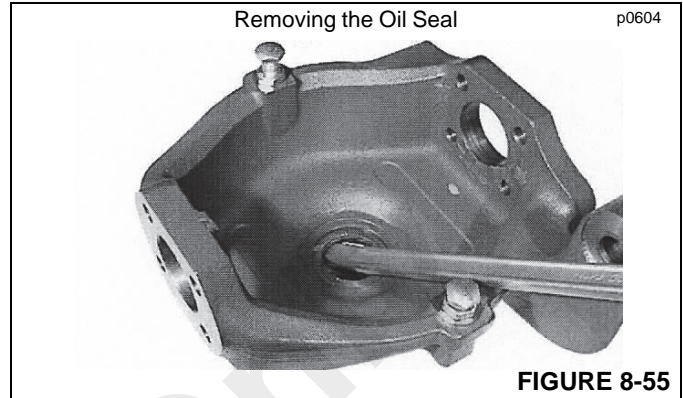

FIGURE 8-55
18. Place the swivel housing on a flat surface and pry out the oil seal ring (Figure 8-55). The seal ring will be damaged during this procedure.